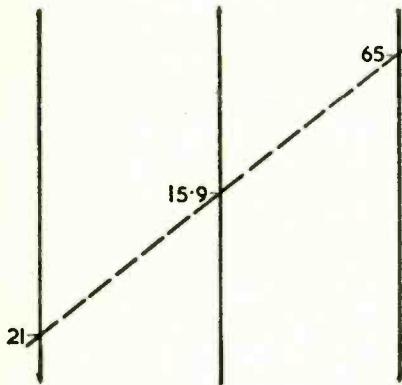

Fig. 2—Use of left-hand scales on chart.
**Example 1:** The total value of two resistors in parallel, 21,000 and 65,000, is to be found: the lower of these values is 21,000. On the outside pair of reference lines, the lowest position at which the number 21 can be used appears on the left-hand side. So the scale marking corresponding to 21, and that corresponding to 65, on the left-hand side of the outside reference lines, are aligned with a straightedge or ruler. The total resistance is read from the left-hand side of the center reference line, in this case 15.9, so the parallel resistance is 15,900 ohms. This is illustrated in Fig. 2.